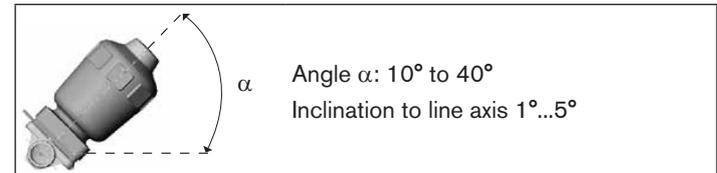

Fig. 2: Installation position for self-drainage of the body
- Install body at an angle $\alpha = 10^\circ$ to 40° to the horizontal (see “Fig. 2”).